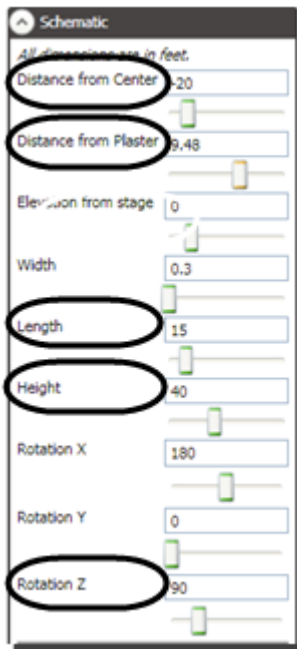
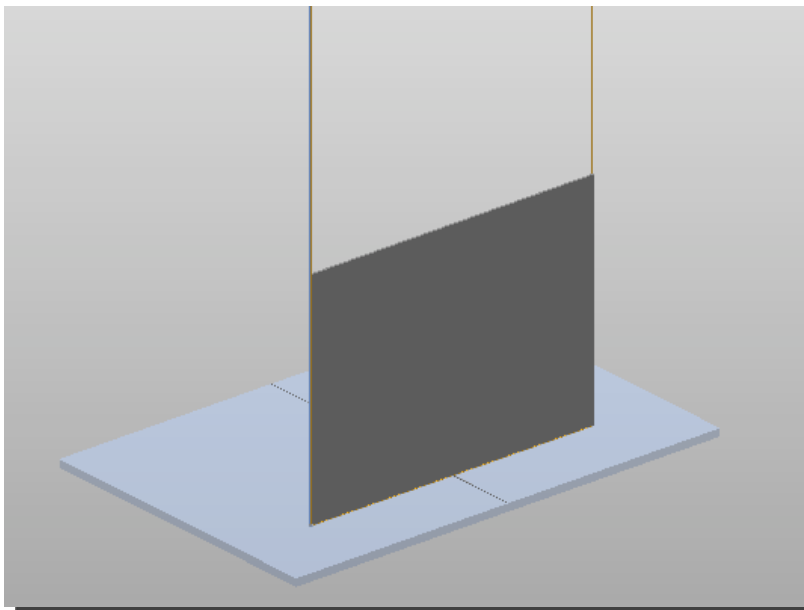

Figure 201
Figure 202
5. By adjusting the **Rotation Z**, **Distance from Center**, **Distance from Plaster**, **Length** and **Height** fields, you can change the horizontal traveler curtain into a vertical flying curtain (Figure 201 and Figure 202).